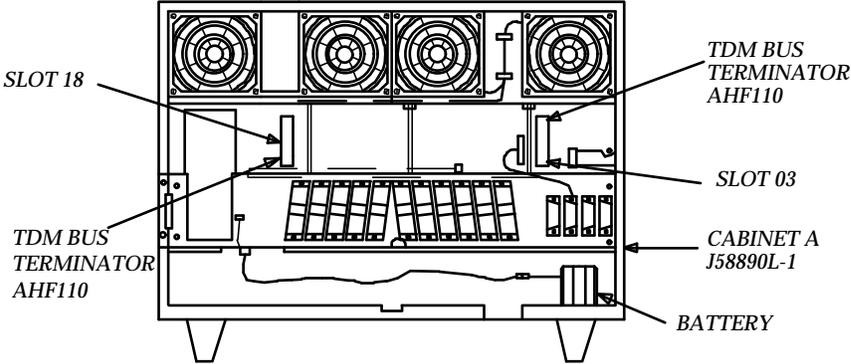

FIGURE 3-15. G1 Control Cabinet TDM Bus Terminator Locations
1. See Note. Remove the AHF110 TDM Bus terminator that is installed on the left side looking from the back of the cabinet (see Figure 3-15).